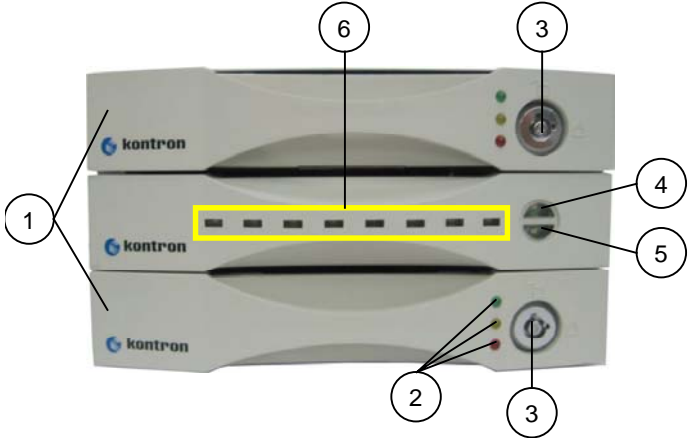

Fig. 4: KISS-Stor 1 – Front view
Legend for Fig. 4 and 4a:
The upper indicator represents the top drive carrier, the lower indicator represents the bottom drive carrier (refer to *fig. 4, pos. 4* and *pos. 5* and *fig. 5*). If a drive fails, the appropriate LED indicator turns on, red and an audible alarm sounds. You can turn off the audible alarm by unlocking the drive carrier.